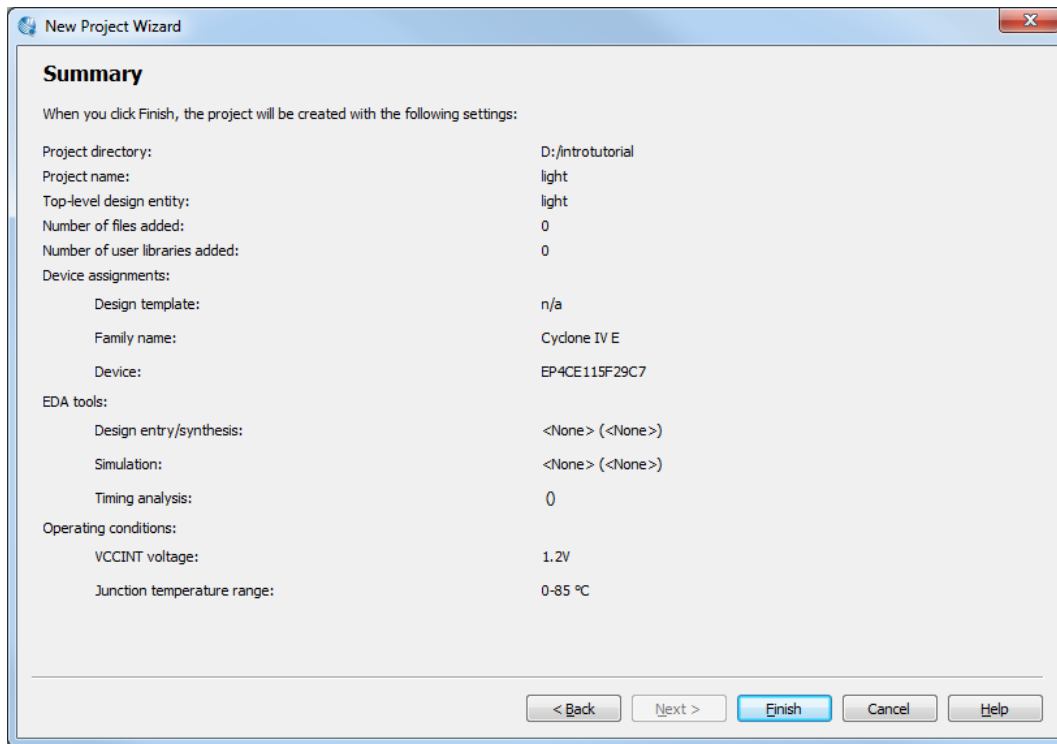
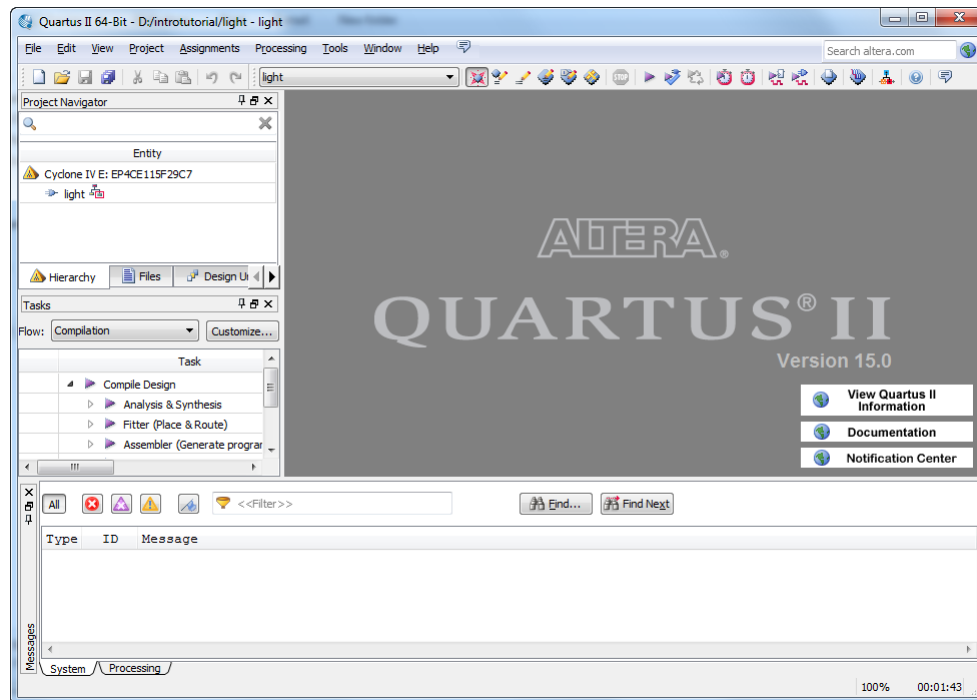

Figure 10. Example summary of a DE2-115 board project settings.
Figure 11. The Quartus II display for created project on a DE2-115 board.
7. A summary of the chosen settings appears in the screen shown in Figure 10. Press Finish, which returns to the main Quartus II window, but with *light* specified as the new project, in the display title bar, as indicated in Figure 11.